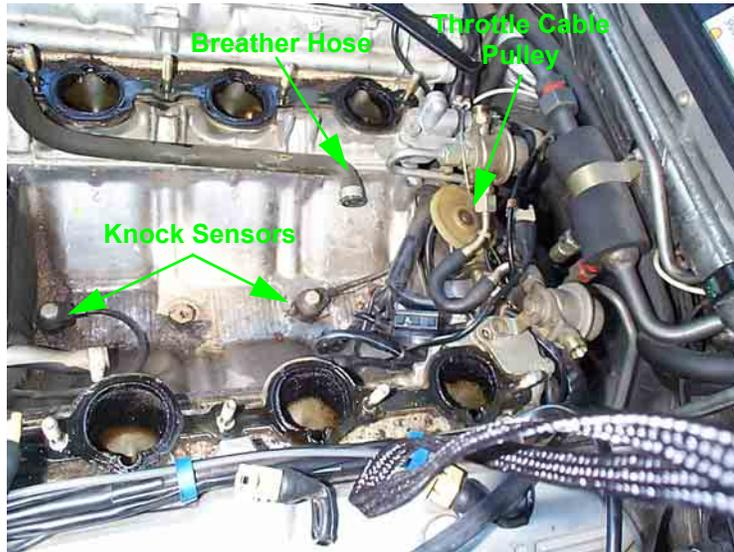

FIGURE 15
- c. Lift the passenger side of the intake. Disconnect the breather hose from the rubber elbow of the throttle housing. See *Figure 15*.
- b. Problems with the throttle cable. The throttle cable is threaded around a pulley. *See Figure 13. See Figure 15.* Make sure that you properly thread the throttle cable around the pulley when you re-attach it to the linkage on the throttle body. Also, make sure that the cable is correctly threaded through the cable guide at the firewall.